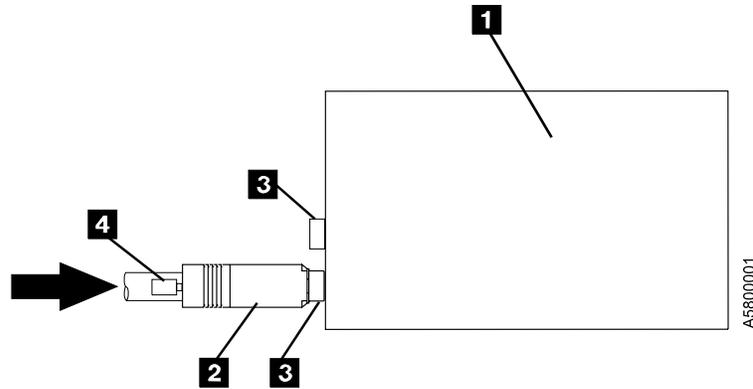

Figure 3. Connecting the SCSI Bus Cable to the 7205 Digital Linear Tape Drive
1. On the rear of the 7205 Digital Linear Tape Drive (1 in Figure 3 on page 11), insert the device connector end of the SCSI bus cable (3) into one of the connectors (3). See Figure 3 on page 11.
3. Tighten the two thumbscrews (4) (finger tight).